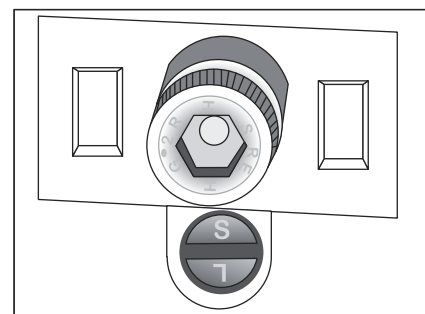

Figure 5
- b. If you are using 5/8" staples set S up. (See Figure 5)